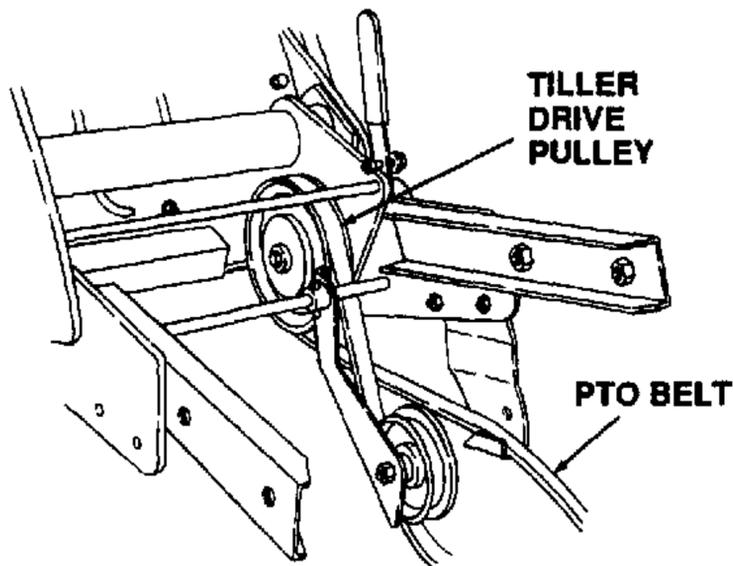
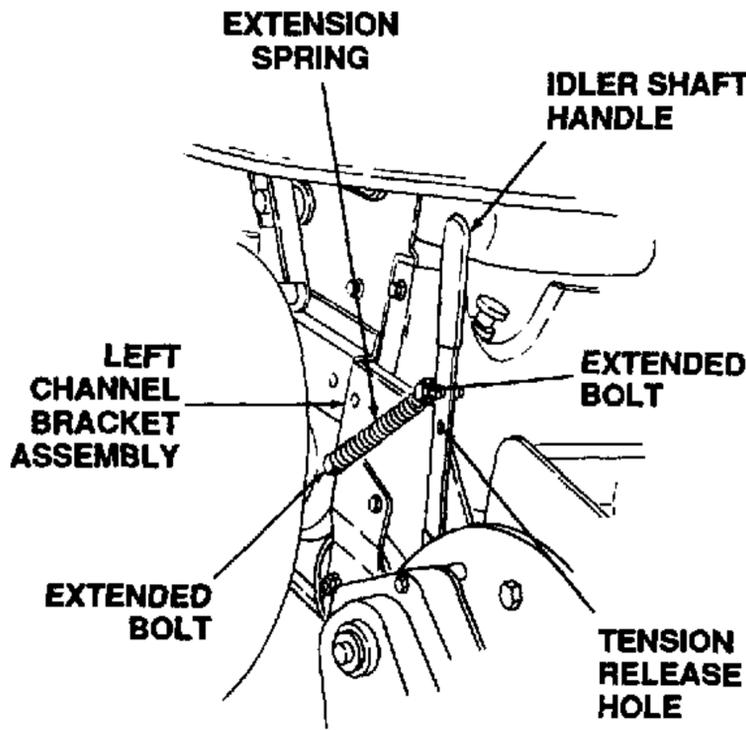

Figure 7-57. Routing the PTO Belt.
Figure 7-63. Installing Extension Spring.
8. Route the PTO belt around the tiller drive pulley as shown in Figure 7-57. Make certain the V-side of the belt fully engages the pulley groove.
5. Plug the rear connector of the tiller wire harness (4) firmly into the lift cylinder (3) electric motor connector.
6. Hook one end of the extension spring (12) onto the extended bolt of the left channel bracket. Push the idler shaft handle forward and extend the spring to hook the other end of the spring onto the extended bolt of the idler shaft handle. See Figure 7-63.
- b. Pull the idler shaft handle rearward until its tension release hole (located below the extension spring, see Fig. 7-63), is positioned behind the rear edge of the left channel bracket.
- a. Pull the idler shaft handle rearward until its tension release hole (located below the extension spring, see Fig. 7-63), is positioned behind the rear edge of the left channel bracket.
- f. Remove the fasteners securing the belt guard plate and flat idler pulley to the idler bracket (9) and remove the belt.
- g. Place the back side (flat side) of the new belt against the flat idler pulley and reinstall the belt, flat idler pulley and belt guard plate onto the idler bracket (9).
- h. Route the belt around the tiller drive pulley as shown in Figure 7-57. Make certain the V-side of the belt fully engages the pulley groove.